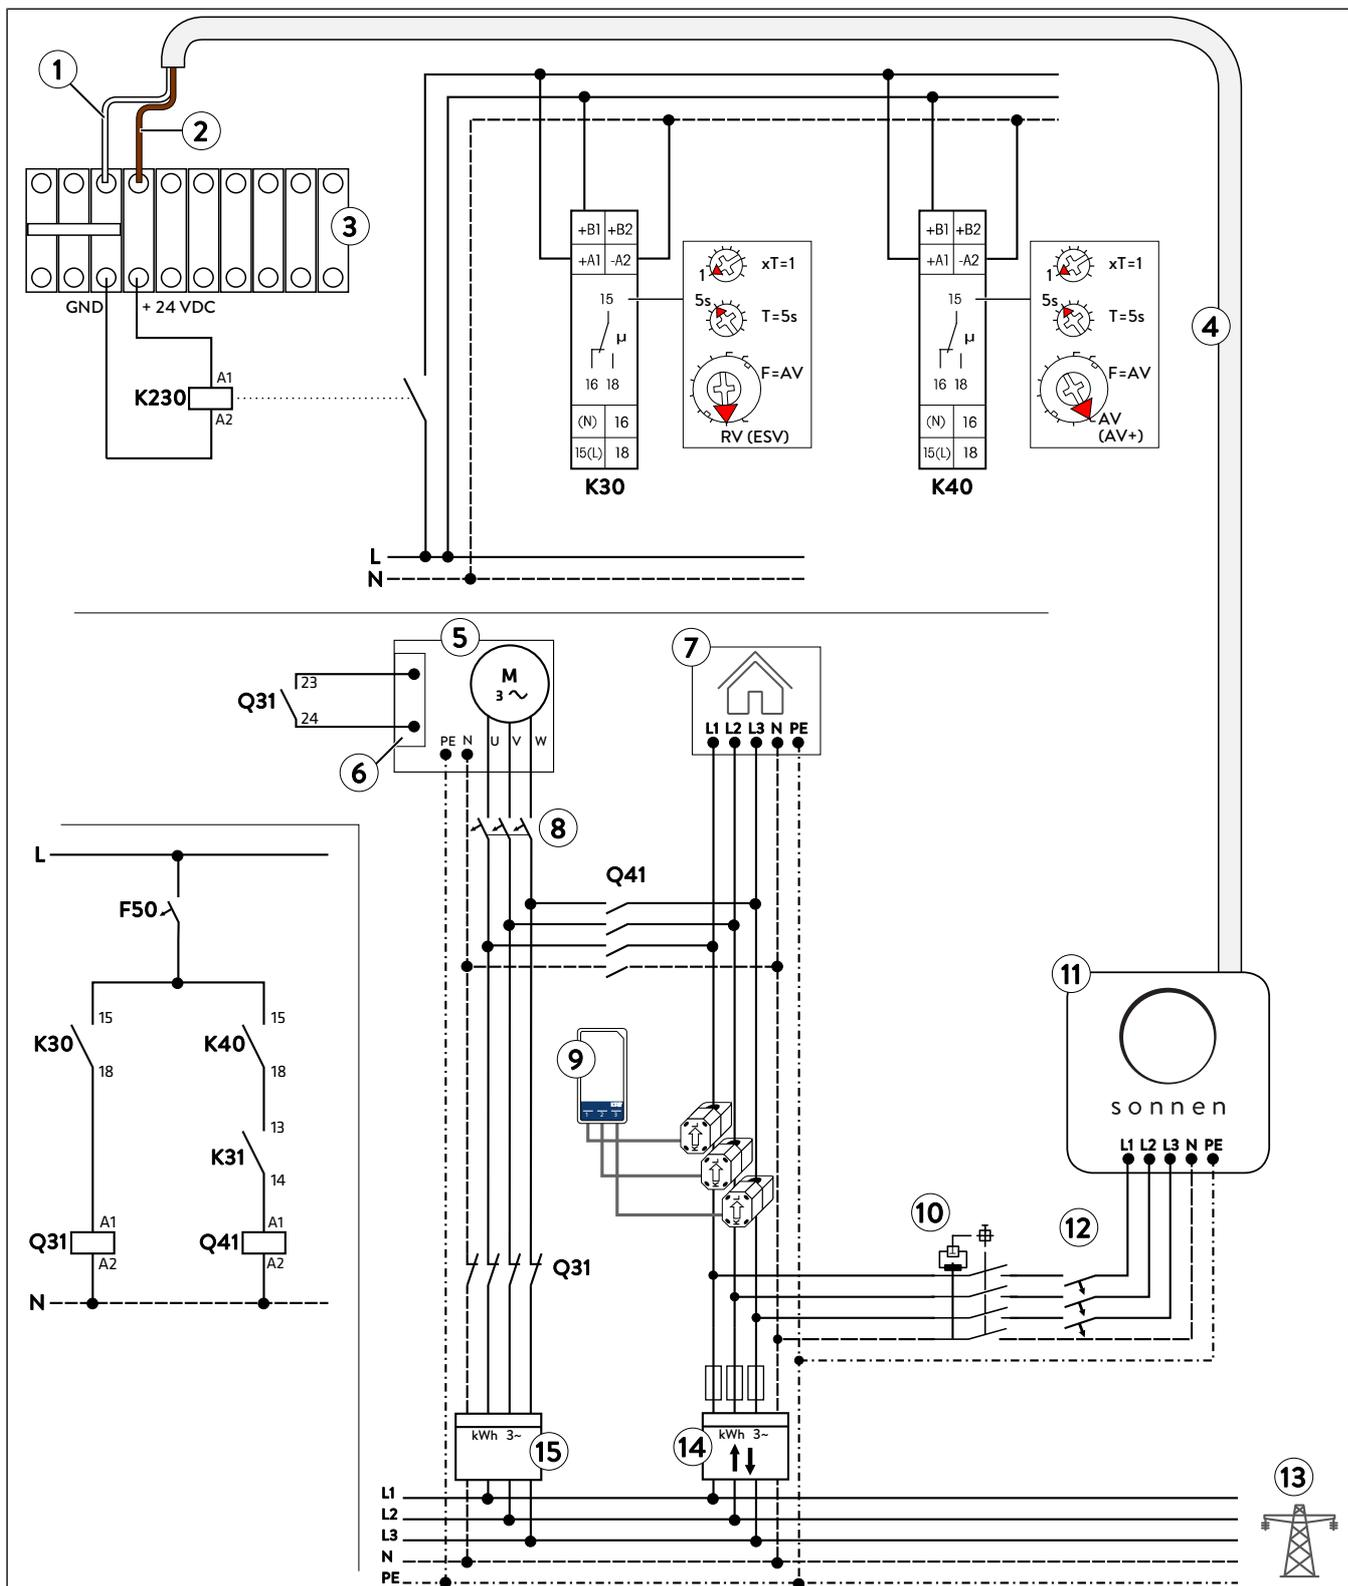

Figure 46: Wiring the heat pump control
If the self-consumption switch is activated, K230, K30 and then Q31 energise (see Figure 46 – pg. 45). The heat pump current path is interrupted.
- ▶ Wire the heat pump control as shown in Figure 46 (pg. 45).
- ▶ Ensure that a de-energising delay (RV) of 5 seconds is set at relay K30.
- ▶ Ensure that an energising delay (AV) of 5 seconds is set at relay K40.